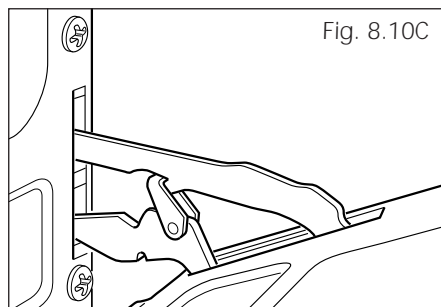

Fig. 8.10C
- Gently close the door and withdraw the lower hinge pins from their location (fig. 8.10C).